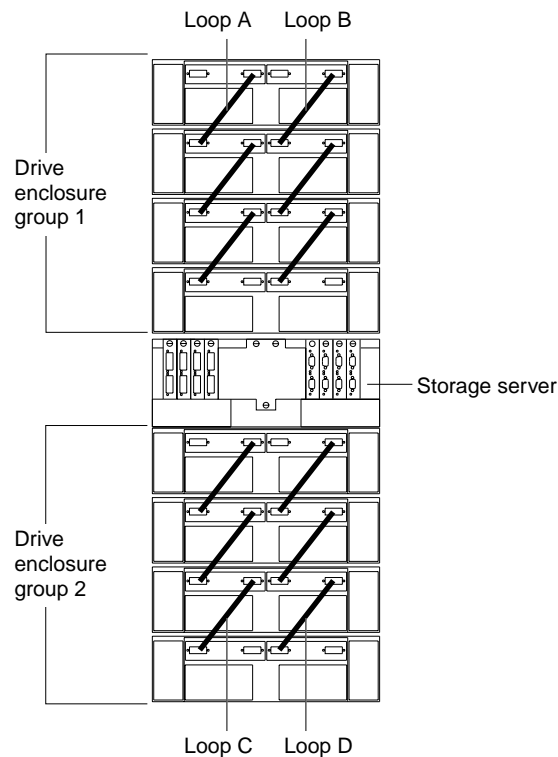

Figure 31. Connecting a second redundant drive enclosure group (loops C and D)
4. Repeat Step 1 on page 26 through Step 3 on page 27 to connect a second redundant drive enclosure group. Figure 31 shows a second redundant drive enclosure group (loop C and loop D on drive enclosure group 2).